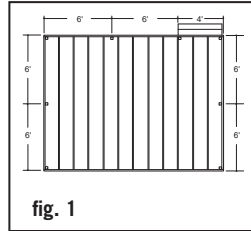

fig. 1
Step 1: Determine the number of railing posts needed for your deck. Post spacing is 6' on center. Example: A 12'x16' deck attached to a building with a 4' access opening on one side will require a total of eight posts (fig. 1).